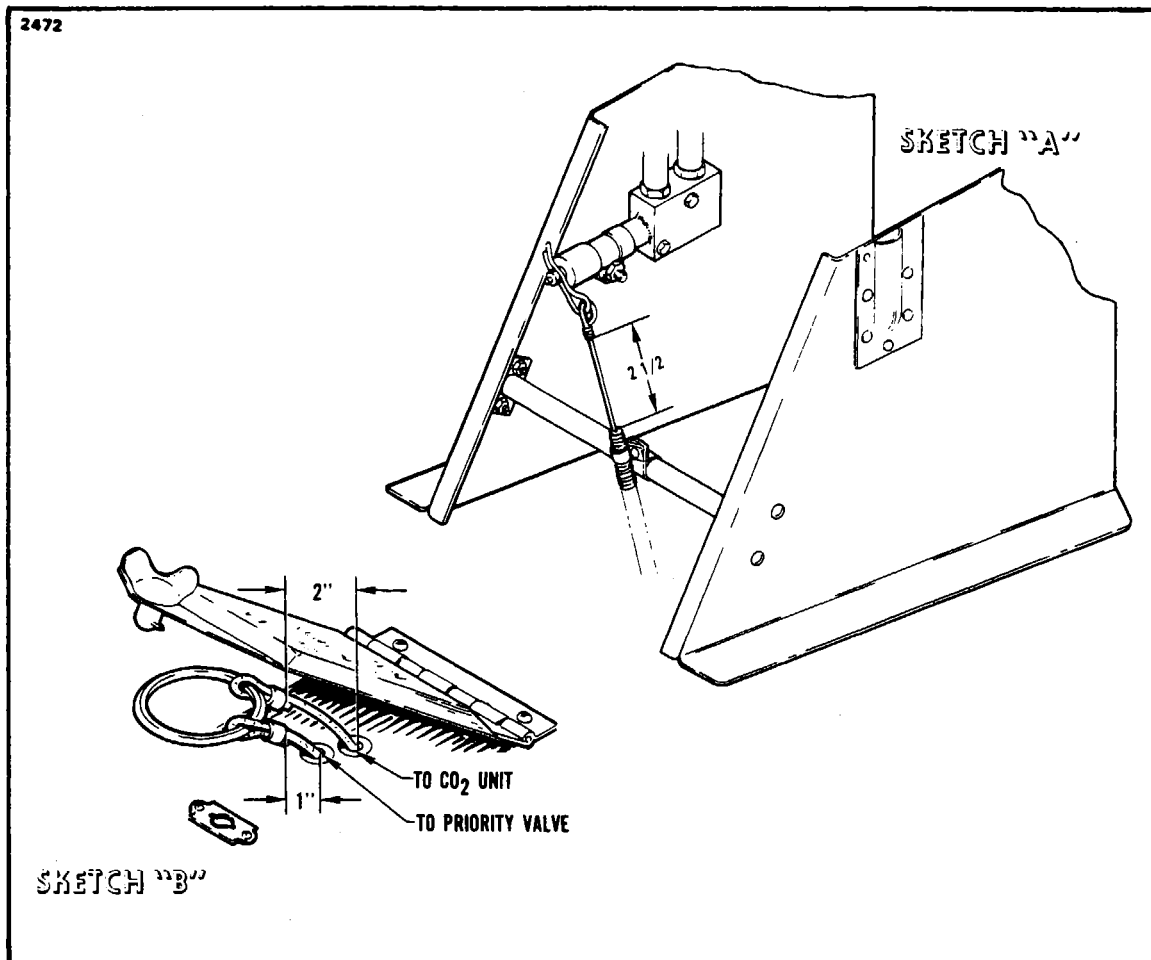

Figure 6-34. Emergency Gear Extender Cable Rigging
6-129. EMERGENCY GEAR EXTENDER CABLE RIGGING. (Refer to Figure 6-34.) It is possible that flexing or slipping of the priority valve actuating cable may retard landing gear extension with the CO2 system. If not previously installed, Kit number 756 878 should be installed in aircraft Serial Nos. 27-2505 to 27-2658 inclusive to prevent further flexing or slipping of this cable. The rigging of the cable follows:
- b. Check the 2.50 inch dimension on the end of the cable housing to the pin in the priority valve as shown in Figure 6-34, Sketch "A" and tighten clamp. If necessary, cut end of flexible housing to obtain the 2.50 inch dimension. This dimension must be maintained.
- d. Gently take up the slack in the cable to the CO2 discharge unit so that it will slide up the ring as shown in Figure 6-34, Sketch "B." The CO2 cable should be 1 inch longer than the priority valve cable at this point.